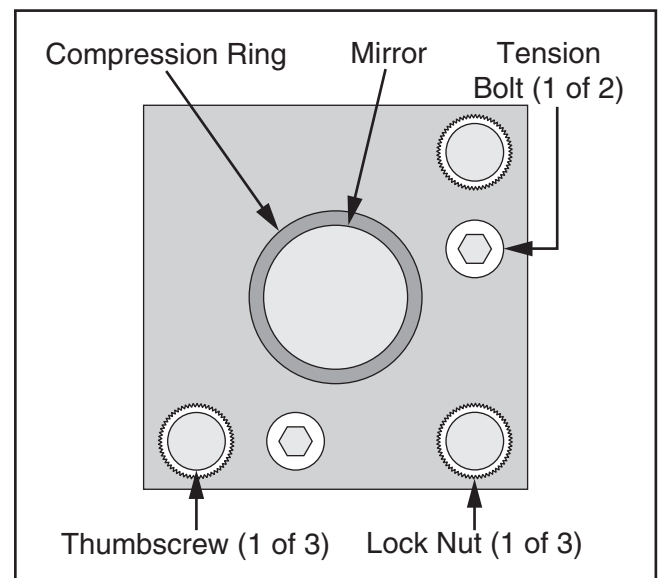

Figure 123. Typical mirror assembly.
4. Loosen lock nuts on (3) brass thumbscrews located behind Mirror #1 assembly (see **Figure 123**).